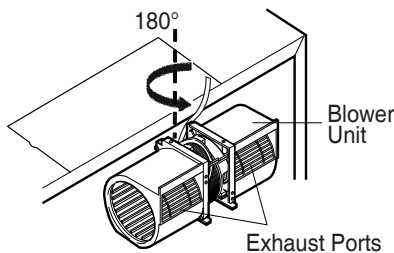

Figure 15
5. Rotate the blower unit so that the exhaust ports face the rear of the cabinet. See Figure 15.